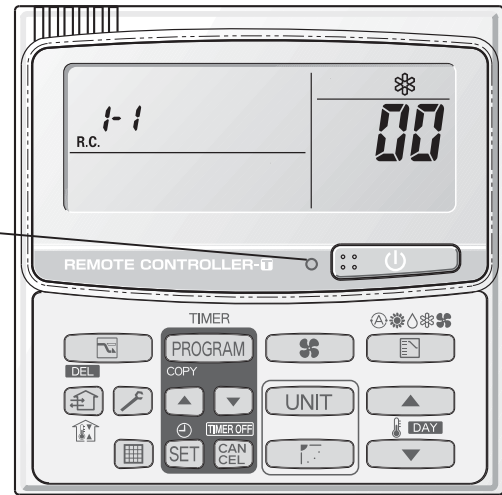

Fig. 1
- **All units start/stop (Fig. 1)**
- **Cooling/heating change (Fig. 1)**